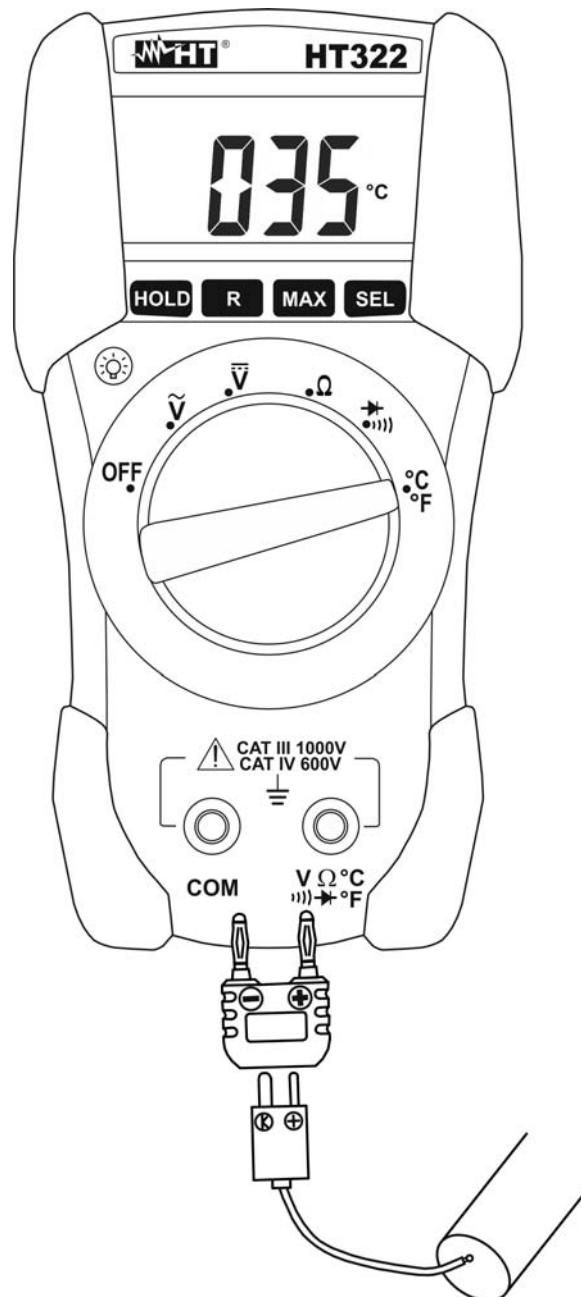

Fig. 6: Using the instrument for Temperature measurement
3. Insert the T10 adapter optional accessory into VΩ°C/°F jack, and **COM** jack with respect of red and black colours (see Fig. 6)